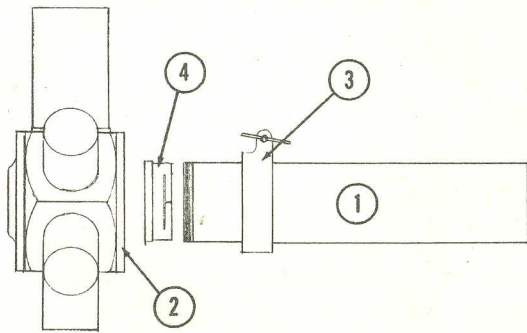
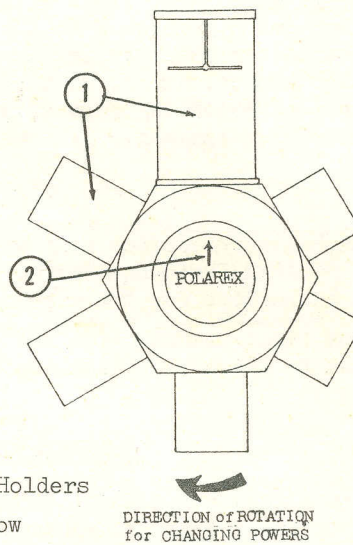

Figure 1
Figure 2
ASSEMBLY: (The following is applicable to all types) Refer to Fig. 1.
- 1) Eyepiece holders are of various lengths(See Fig. 2 (1)). The eyepieces should be arranged in the holder in order of focal length with the longest focal length eyepiece in the longest holder. This arrangement will require the minimum focus adjustment when changing powers.
- 2) The index arrow(2) indicates the position of the prism. The eyepiece holder in line with the index arrow is the one which is in position for viewing. The entire R.E.H. may be rotated in the rack and pinion, repositioning the prism, if viewing from either side of the telescope is more comfortable.
- 3) Focus initially by sliding the entire R.E.H. in or out of the rack and pinion sleeve, using a low power eyepiece. When an approximate focus has been obtained slide the clamp (Fig. 1 (3)) over the rack and pinion sleeve and tighten the wing nut. This will prevent the R.E.H. from sliding out of the instrument and will retain the coarse focus position. Refine the focus by using the rack and pinion mechanism.
The amplifier(Fig. 1 (4)) is located in the threaded end of the drawtube and can be removed by a "pulling-twisting" motion. When inserted in the tube, it will double the magnification of all eyepieces in the R.E.H.